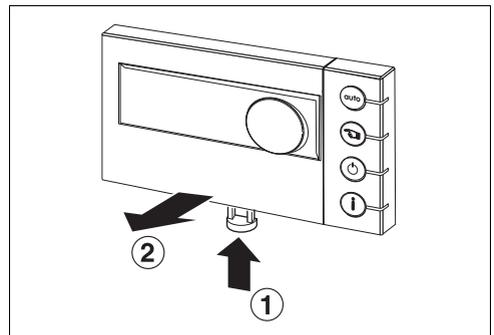

Fig. 18 Disassemble thermostat
- Unlock the thermostat by pressing the button (Fig. 18, step 1).
- Remove the thermostat (Fig. 18, step 2).